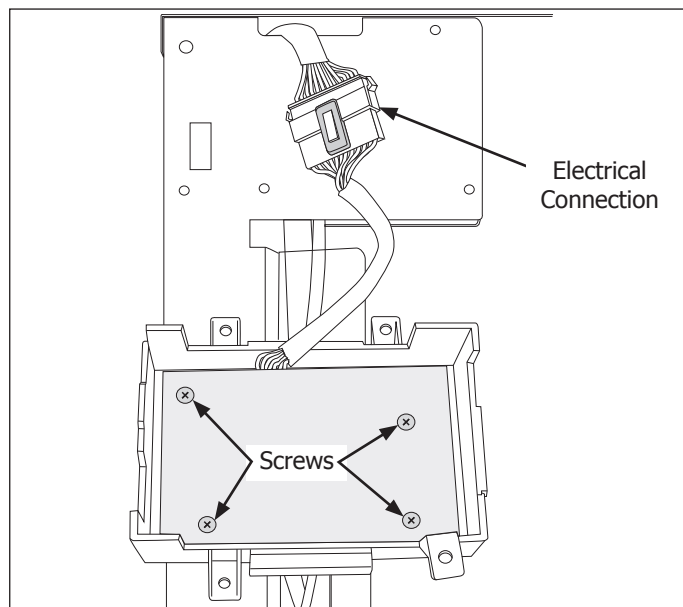

Figure 4-4.
4. Disconnect the user interface at the connector. (See Figure 4-4)